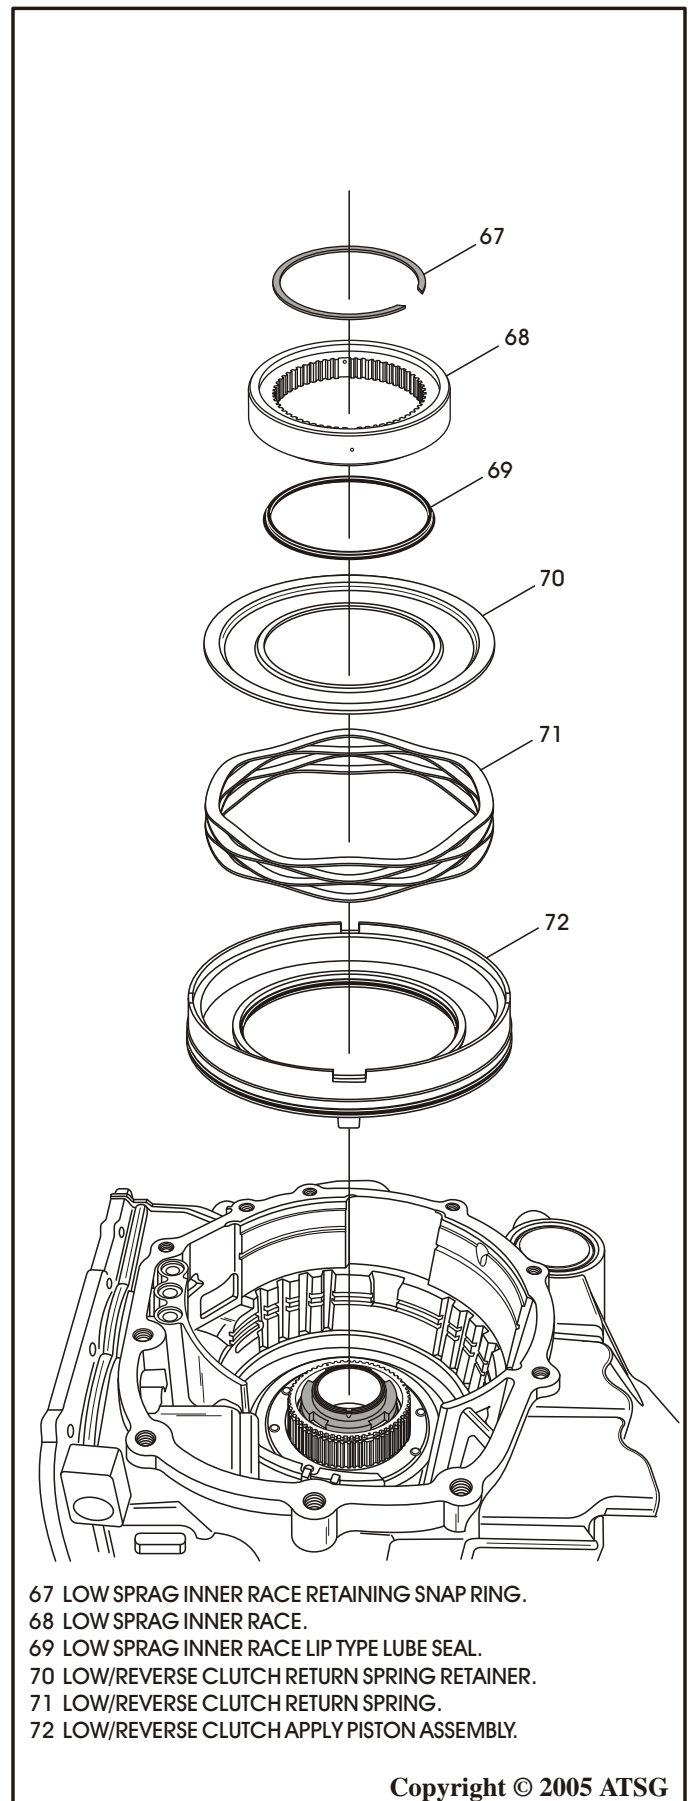

Figure 52
61. Remove low/reverse clutch piston snap ring, as shown in Figure 52.
63. Remove the low sprag inner race, as shown in Figure 52, remove and discard the "Lip Type" seal on the back side of inner race.
64. Remove the low/reverse clutch return spring retainer, as shown in Figure 52.
65. Remove the low/reverse clutch piston return spring, as shown in Figure 52.
66. Remove the low/reverse clutch piston, as shown in Figure 52.